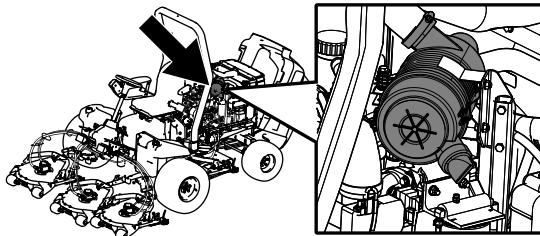

**Figure 47**
- Cutting unit spindle-shaft bearings (2 per cutting unit)—Figure 47